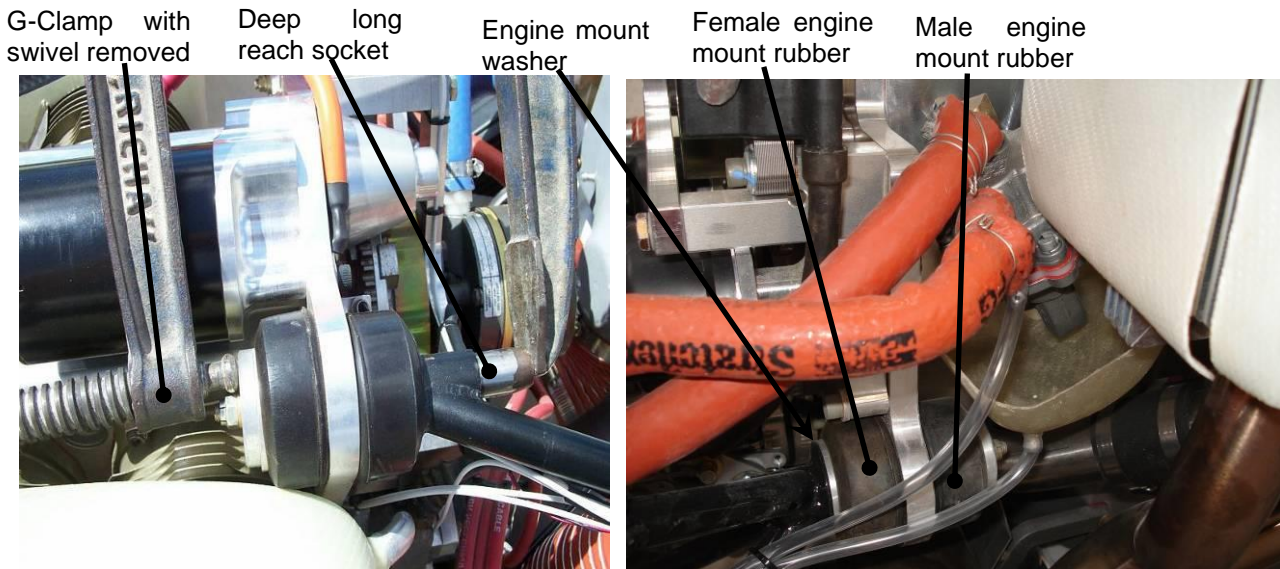

Figure 39 Upper and Lower Engine Mount Detail
- To place the nuts on the mount bolts the rubbers must be compressed. Do this by using a deep reach socket inside the engine mount pins and clamping the rubber mount assembly using a G-clamp with the swivel taken off the ball. See Figure 39. Start nuts on both upper mount bolts.
- Connect the fuel line to fuel pump (Refer to Figure 39). Ensure the fireproof sleeve is in place.
- Ensure that the fuel overflow line is in place, and secured to vent overboard. This is the small, clear hose shown leading from the fuel pump in Figure 39.